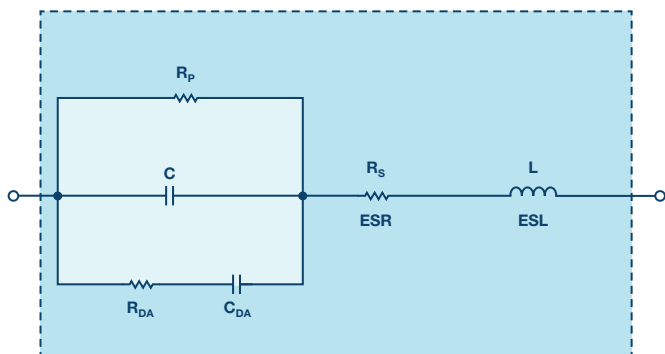

Figure 1. A real capacitor equivalent circuit includes parasitic elements.
Figure 1 shows a model of a real capacitor. The nominal capacitance (C) is shunted by a resistance, R_p , which represents insulation resistance or leakage. A second resistance, R_s (equivalent series resistance, or ESR), appears in series with the capacitor and represents the resistance of the capacitor leads and plates.